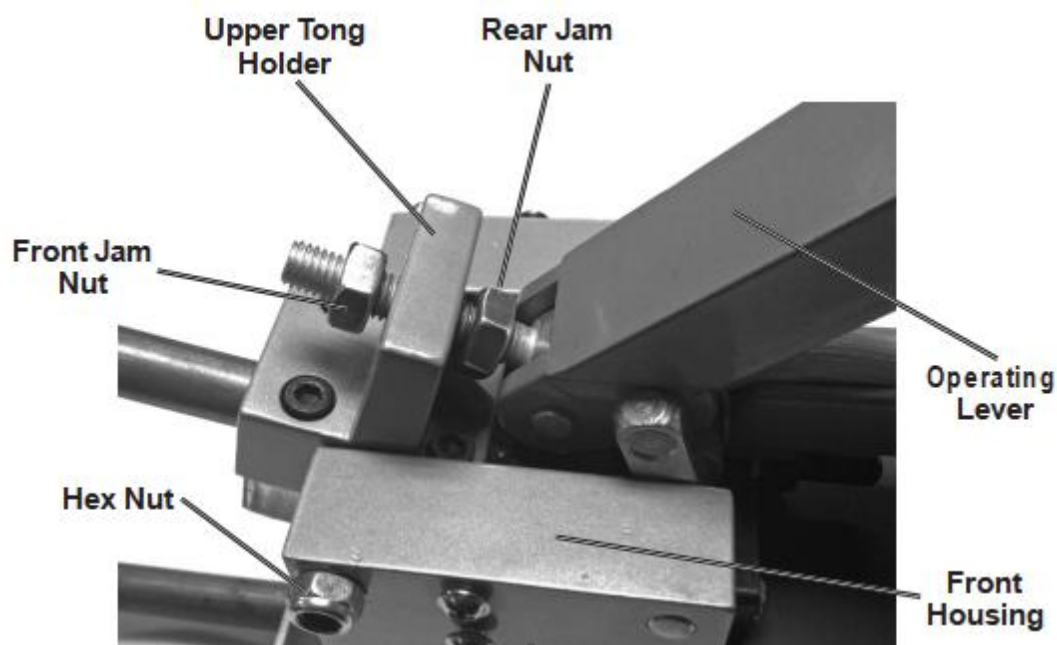

Figure 3-7
2) ***If the Tong pressure is too weak***, and the workpieces are loose when the Tongs close, severe arcing will occur between the workpieces when current is applied and no weld will be produced. ***To increase the Tong pressure***, loosen the front Jam Nut. The more the front Jam Nut is loosened, the greater the pressure on the Electrode Tips when the Operating Lever is pushed down to close the Tongs. When the desired pressure is achieved, turn the rear Jam Nut toward the Upper Tong Holder to lock in position. See Figure 3-7.
3) ***If the Tong pressure is too strong***, the weld nugget will dimple, and molten material will be forced out around the weld point. ***To decrease the Tong pressure***, loosen the rear Jam Nut and turn the front Jam Nut toward the Upper Tong Holder to lock the desired pressure in position. See Figure 3-7.
5) The pressure required to push down the Operating Lever may be adjusted by turning the Hex Nuts located on each side of the Front Housing clockwise or counterclockwise to loosen or tighten the Lever action. See Figure 3-7.